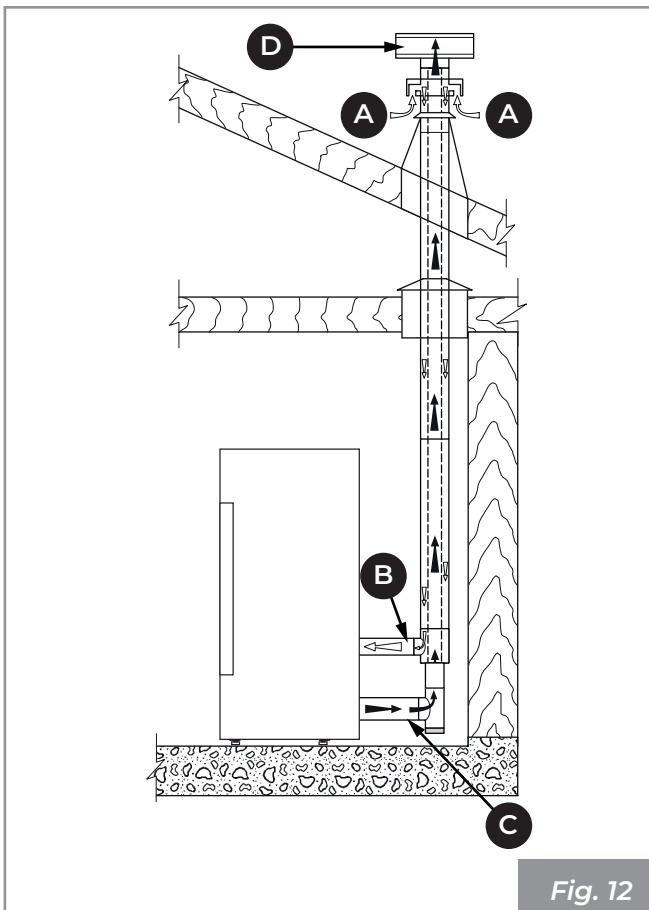
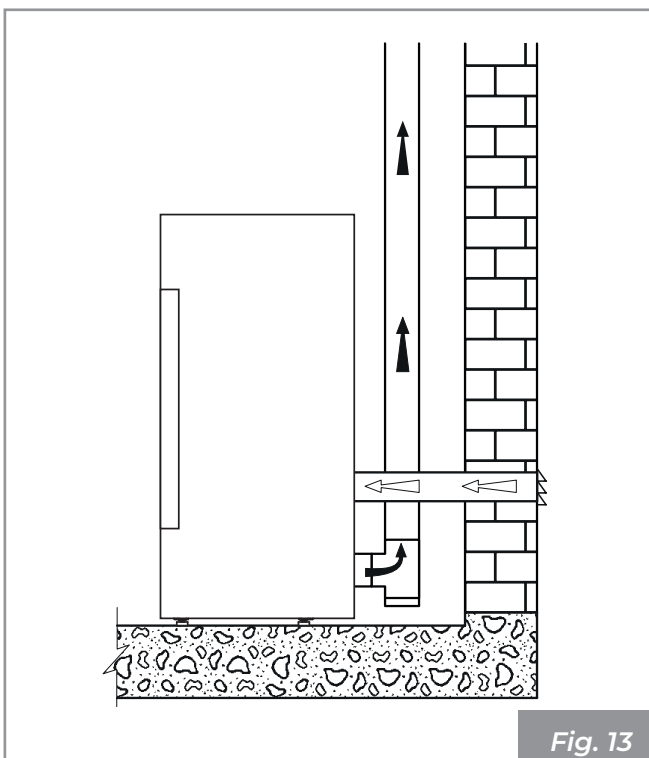

Fig. 12
Fig. 13
- it can come directly from outside with direct connection to the combustion chamber (**Fig. 12 - Fig. 13**).
- to channel the combustion air using a coaxial exhaust pipe to expel the flue gases and extract the air (**Fig. 12 - A, B** = Air inlet, **C, D** = Flue gas outlet); in this case it is not necessary to create a classic air intake in the room.
- to connect the combustion air inlet of the appliance to the air intake using a special pipe (**Fig. 13**).